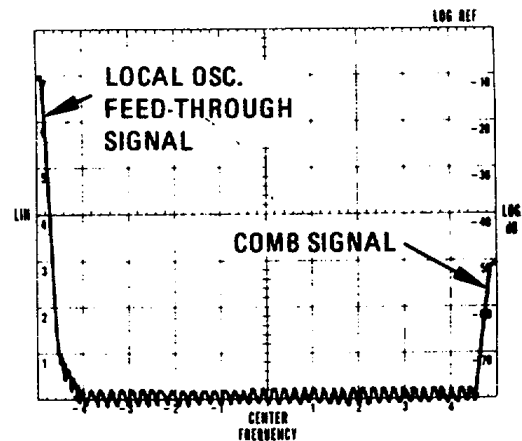

Figure 5-2. First Local Oscillator Adjustment: CRT Display
7. Tune FREQUENCY until half the feedthrough signal appears at the left edge of the graticule. See Figure 5-2.